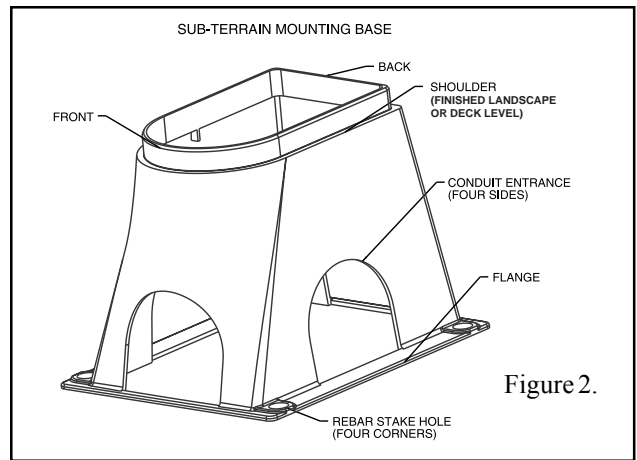

Figure 2.
B. Installing the Sub-Terrain mounting base; see Figure 2 and Pictures on pg. 10.
3. Cut fiber conduit below or at top of base and cut electrical conduit 6 in. above finished landscape or deck level, see Figure 2. See PG2000 Conduit Template on pg. 28 of these instructions.